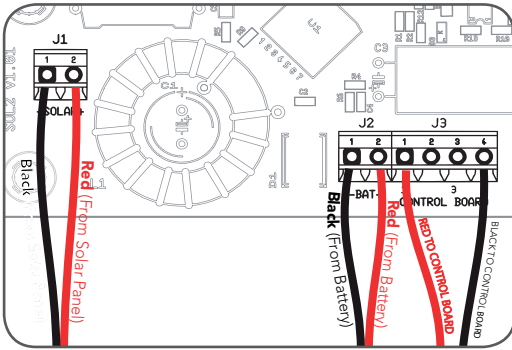

Fig 67
5. Connect the **red wire** to the Charger Board's "BAT+" connector, and the **black wire** to the "-BAT" connector (**Fig. 67**).